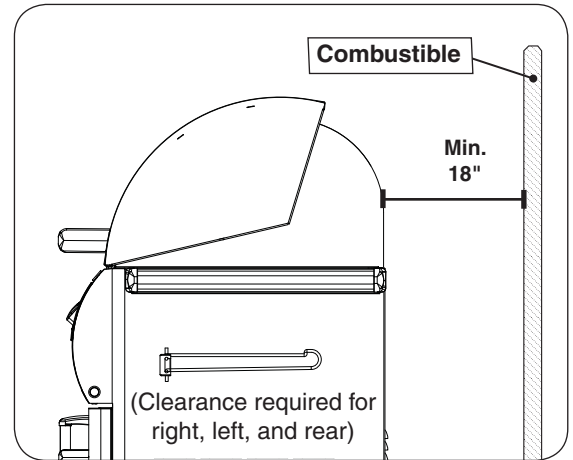

Fig. 13-1 Clearance 'A' Diagram
- The grill must have a minimum of 18" right, left, and rear clearance from any combustible wall (see Fig. 13-1).